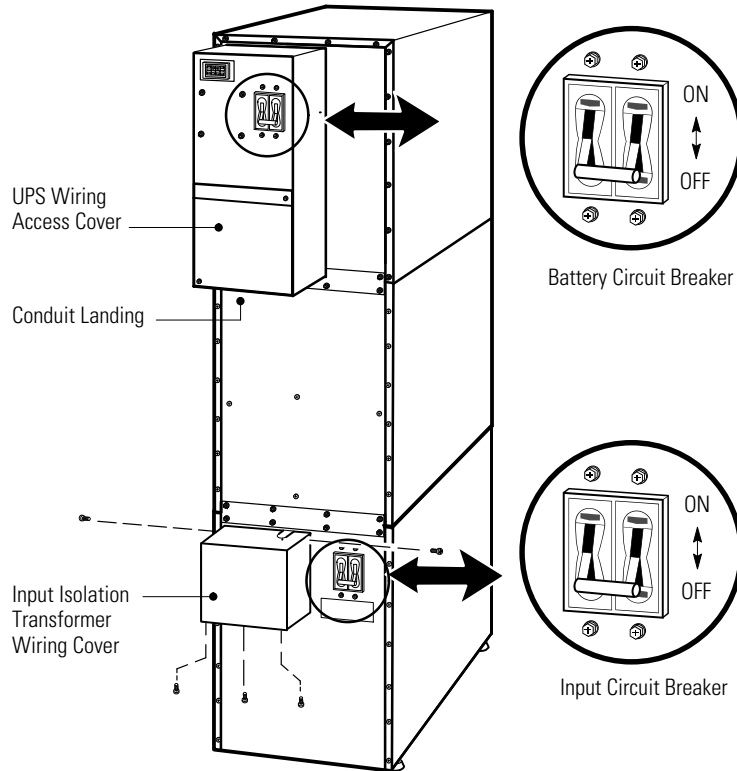

Figure 9. UPS with Input Isolation Transformer Rear View
5. Verify that the UPS battery circuit breaker is in the OFF position (see Figure 9).